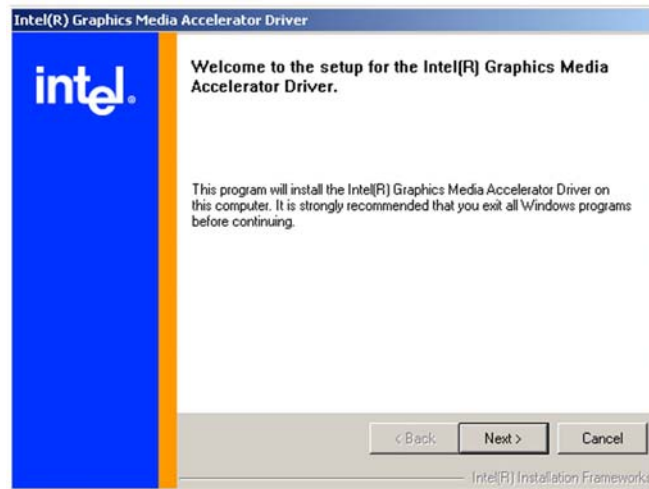

Figure 7-13: GMA Driver Installation Welcome Screen
- Step 2:** Once double clicking the Setup icon, a Welcome screen shown in **Figure 7-13** appears.